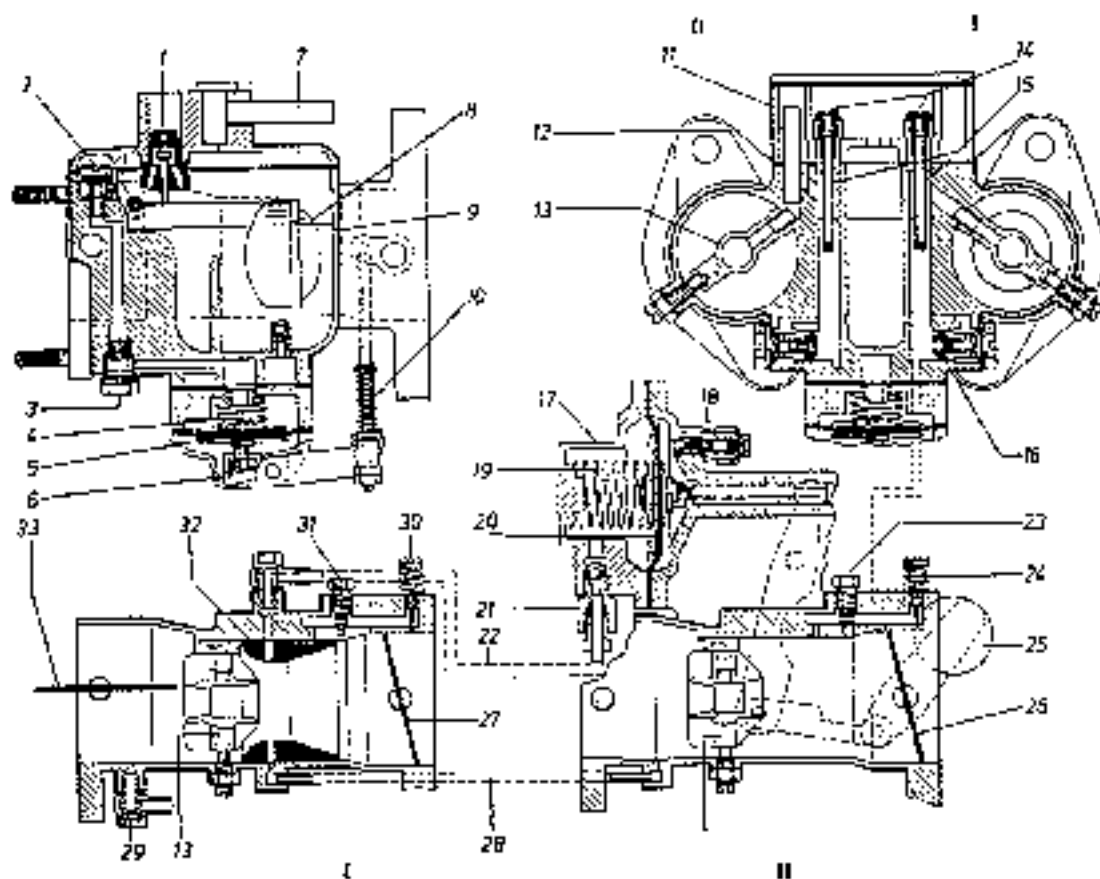

Fig. 07-0/44
Particular importance attaches to the overflow control tube (12) in stage 2 through which the fuel mixture must pass on its way to the outlet tube of the diffuser (13) of stage 2. This device is necessary in order to counteract the effect of the partial vacuum which is formed in the air suction tube between carburetor and air filter. When the throttle valve of stage 2 is closed, this partial vacuum acts also on the main carburetor system of this stage and would flood it, i. e. without the overflow control tube, fuel would be drawn from the diffuser and - mixed with inlet air - would pass to stage 1 through the air suction tube (Fig. 07-0/44)